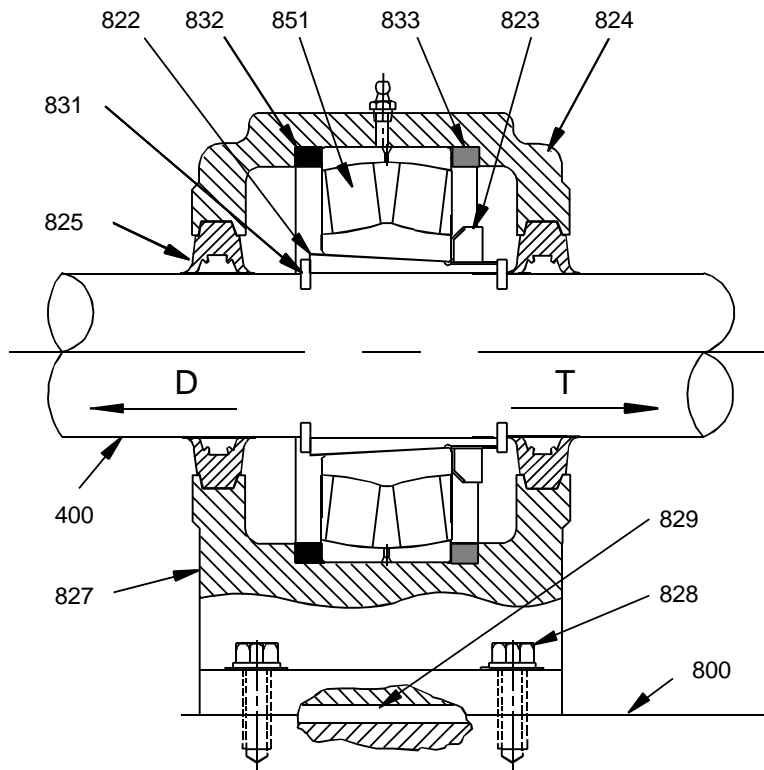

Figure 24: Outboard Bearing (non-split design)
Refer to **Figure 24**, page 65.
4. Position the adapter sleeve along with the bearing and all other components in the correct order on the shaft, with the threaded end toward the tank. Refer to the assembly drawing, **Figure 24**, page 65.
5. Place the bearing components and the seal rings into the lower housing half (827) by bringing the lower housing half up from underneath and sliding it together onto the agitator mounting base.
6. Position the bearing and associated components on the shaft in their original location by returning the retaining rings (831) to the shaft grooves with the adapter sleeve between them.